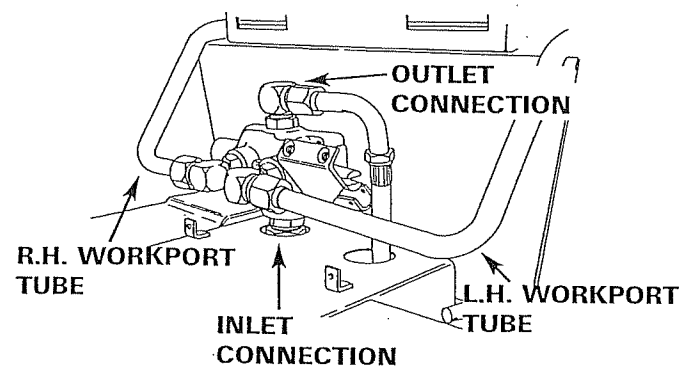
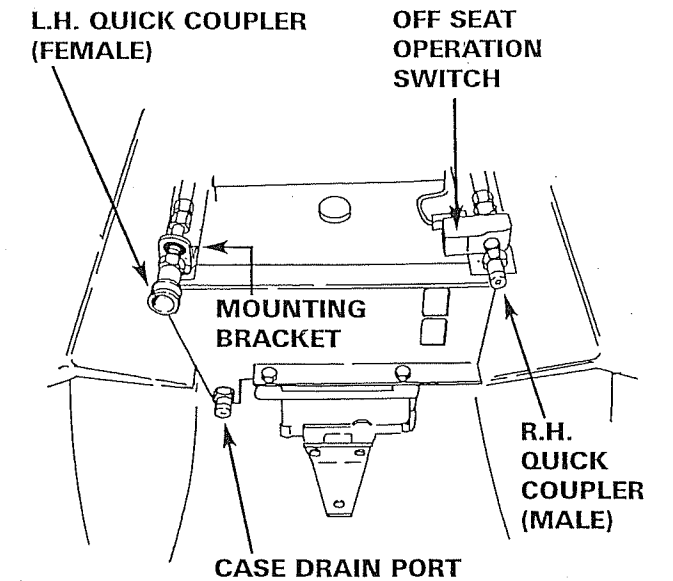

FIGURE 3
FIGURE 6
1. Set PTO valve into position at front seat support as shown in figure 3.
2. Connect PTO outlet hose (30) (with two 90° bends) to the top of PTO valve. Use the shorter hose for 3000 series tractors and the longer hose for 4000 series tractors.
1. Install work port tubes to PTO valve as shown in figure 3. The tubes should run parallel with the rear fenders. See figure 6.